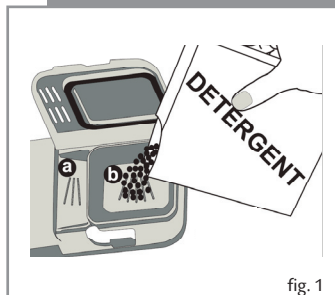

fig. 1
2. Add the required amount of detergent. The main detergent compartment (b in figure 1) has lines to allow for specific amounts of detergent.
If your dishes are in need of an intensive wash, then add 5 cm³ of detergent into the prewash section of the compartment (a in figure 1).